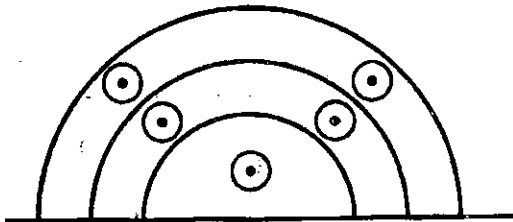

Figure 3-1: Non-flared Steps
- b. PLACEMENT – Place no further than 3'-6" from any vertical surface. Place no further than 7' from any other low flow head on a straight step or bench. Place near the front edge of steps (see Figure 3-1).